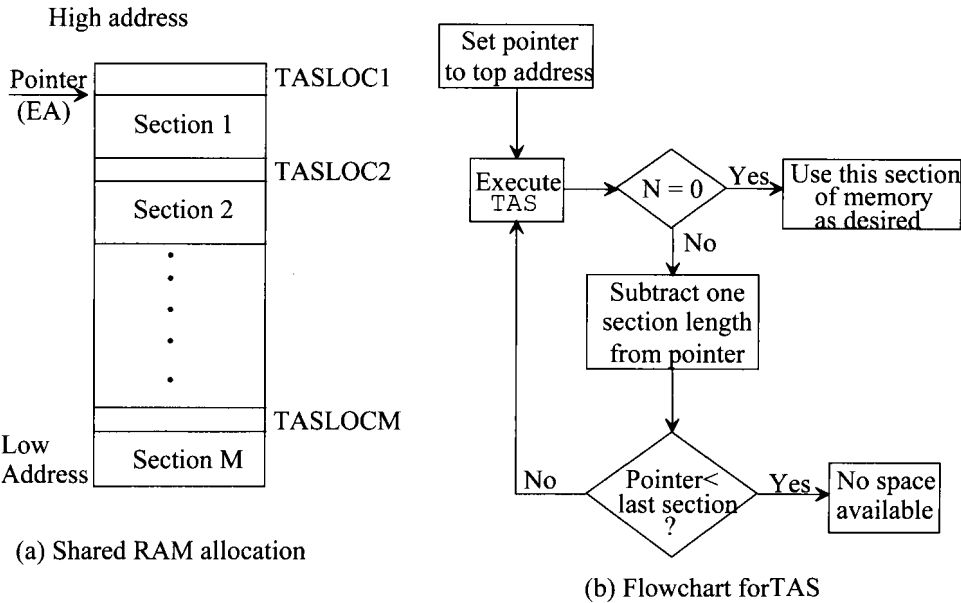

FIGURE 7.23 Memory allocation using TAS.
The TAS instruction can therefore be used to allocate free memory spaces. The shared RAM of the Figure 7.23(a) is divided into M sections. The first byte of each section will be pointed to by (EA) of the TAS (EA) instruction. The TAS instruction execution flowchart for allocating memory is shown in Figure 7.23(b). In Figure 7.23(a), (EA) first points to the first byte of section 1. The instruction TAS (EA) is then executed. The TAS instruction checks the most significant bit (N bit) in (EA). $N = 0$ indicates that section 1 is free; $N = 1$ indicates that section 1 is busy. If $N = 0$, section 1 will be allocated for use. If $N = 1$ (section 1 is busy), a program will be written to subtract one section